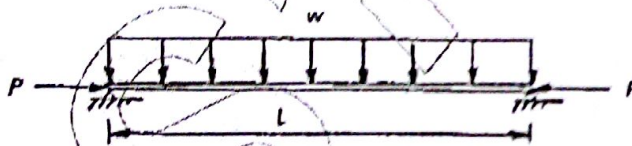

Figure 1
b) Find the critical buckling load for simply supported beam of rectangular 40 mm × 50mm cross section as shown in figure 1. Take $G = 200 \text{ GPa}$ and $L = 2 \text{ m}$. [9+6]